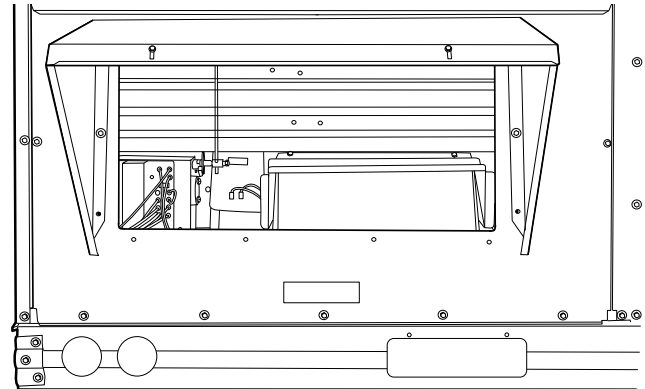

Fig. 25 — Outdoor-Air Hood Installed on Unit
10. Fasten hood top and side plate assembly (Fig. 25) to outdoor-air opening panel with screws provided.